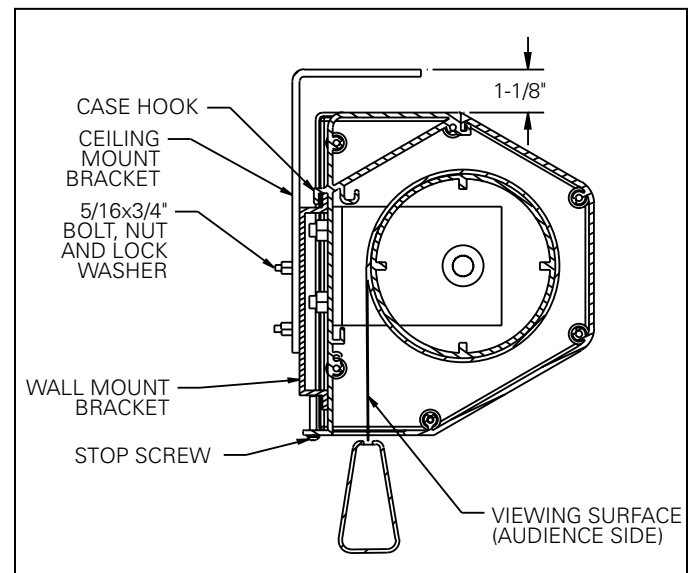

FIGURE 2
4. Mount the screen on the wall bracket as shown in figure 2. Be sure the case is fully seated on the bracket. Tighten the stop screws against the wall bracket.